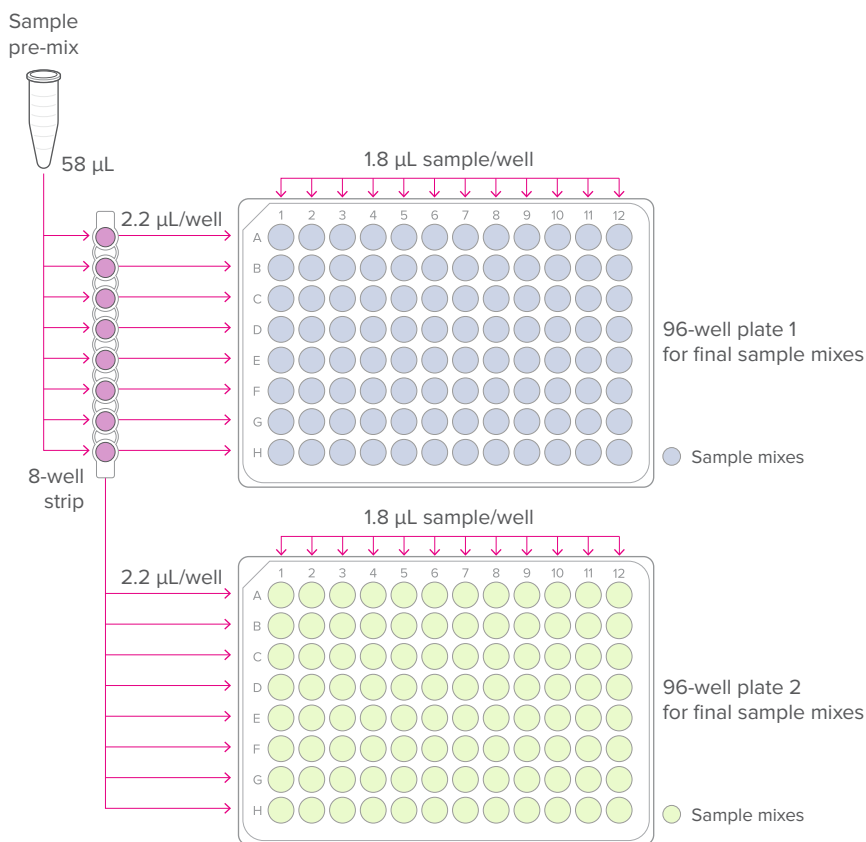

Figure 4. Final sample plates (per-well transfer volumes)
- 3** Prepare the final sample mixes as shown in Figure 4 on page 14.